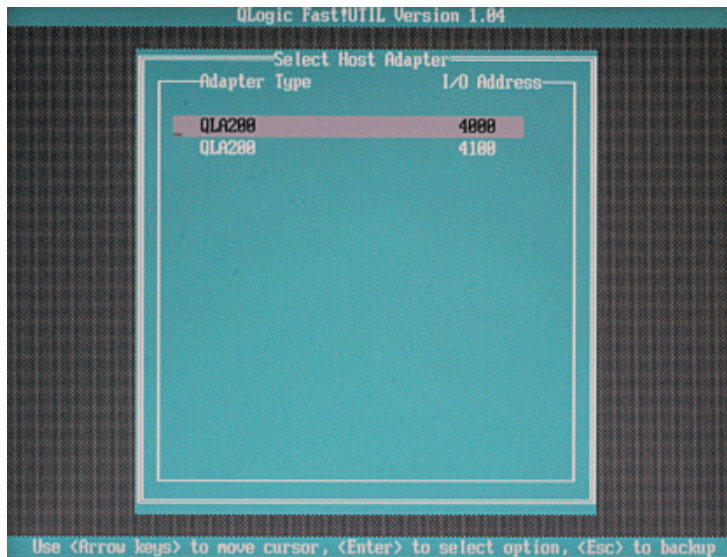

Figure 9-62 Select host adapter
2. Select the first HBA and press **Enter**. See Figure 9-62 on page 488.